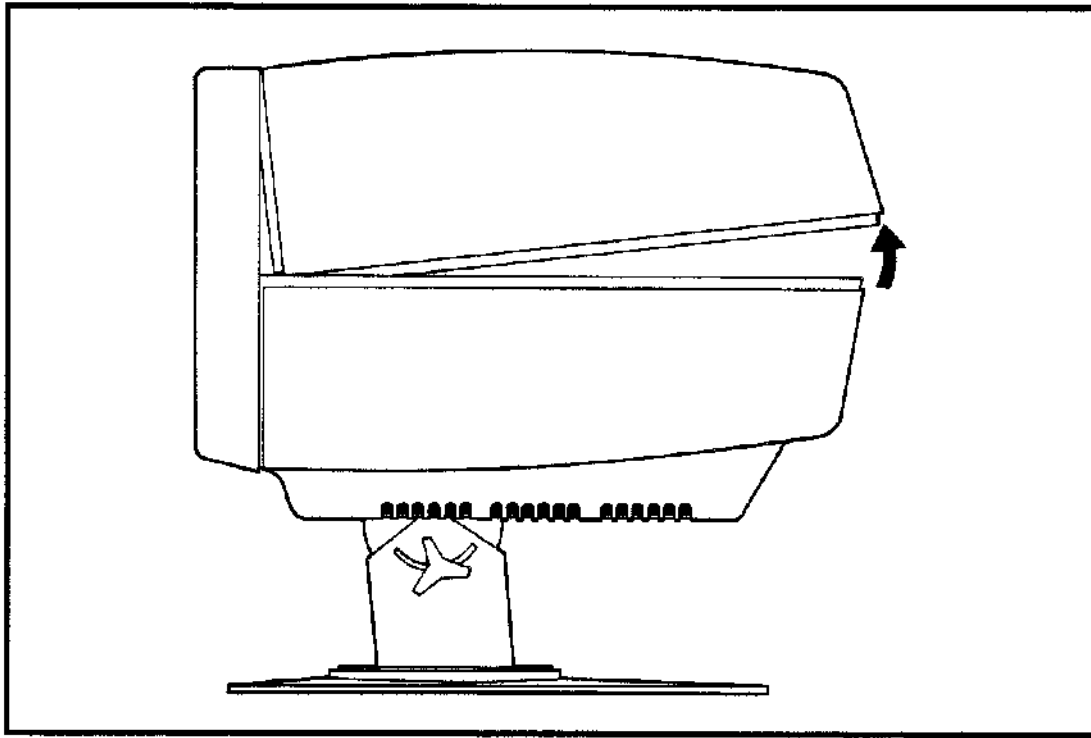

Figure 6-3: REMOVING THE C-5 TOP COVER
2. To lift off the top cover, start at the back end and carefully rock the cover back and forth until it releases from the bottom part of the monitor assembly (Figure 6-3). Set the C-5 back on its base.